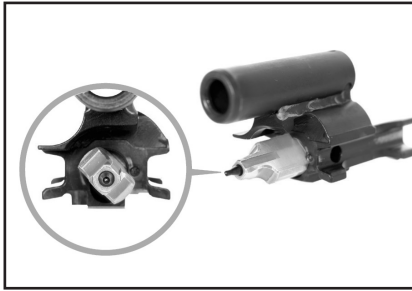

Fig. 46 – Assembly position for locking piece
Observe assembly position of locking piece (Fig. 46).
4. Turn locking piece anti-clockwise until assembly position has been reached (Fig. 46).